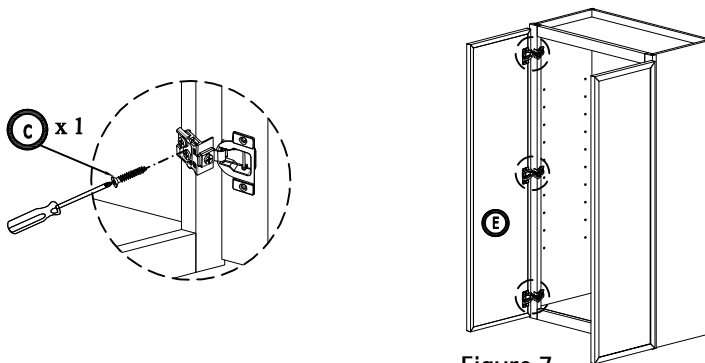

Figure 7
7. Assemble door with hinges to left or right of cabinet frame by 3 screw 4/5" (Figure 7)